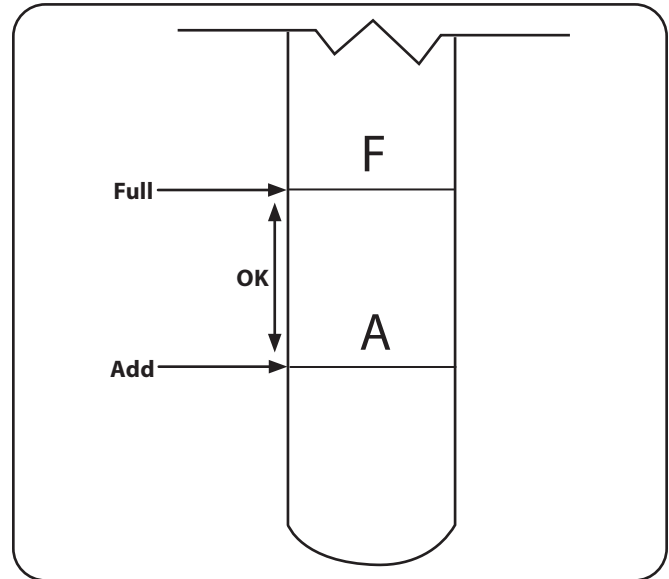

Figure 6-6
1. Remove the dipstick and check the level. See Figure 6-6.
7. Remove the oil fill plug/dipstick from the oil fill port and SLOWLY pour oil into the oil fill port. Fill the transmission case until the oil level reaches the "FULL" mark on the dipstick. Refer to Figure 6-6 on page 22.